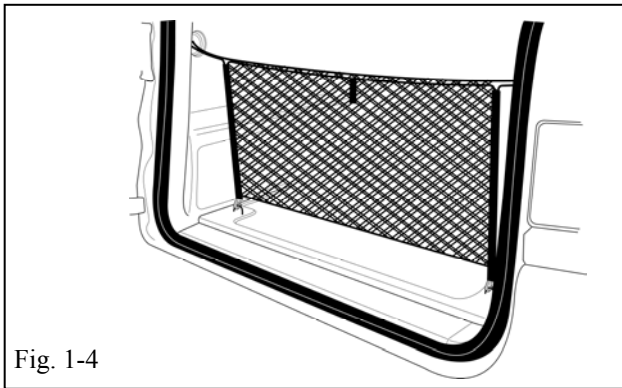

Fig. 1-4
-  (f) Confirm completed assembly. Make sure net handle is facing out toward the rear of the vehicle (Fig. 1-4).